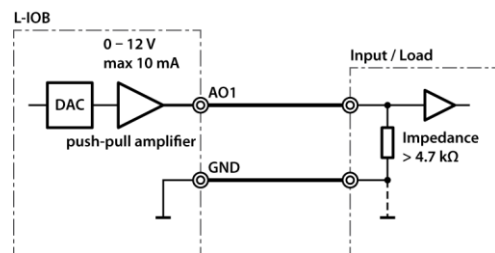

Figure 97: 12V analog outputs
Figure 97 shows the wiring of the 12V analog outputs (AO). Observe that the analog outputs are labeled '0-10V OUT' but are in fact capable of delivering up to 12V.